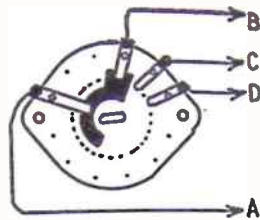

Fig. 4—Switch connections
Though a multi-contact switch sometimes confuses beginners, this need not be so. The switch has five wafers, each as shown in Fig. 4. Referring to Fig. 4, it will be seen that the circuit goes to the switch contact from lead (A). In the diagram, (A) is shown switched to (B). As the switch is turned, the contact moves round. In the second position, (A) is switched to (C). Finally in the last position, (A) is switched to (D).